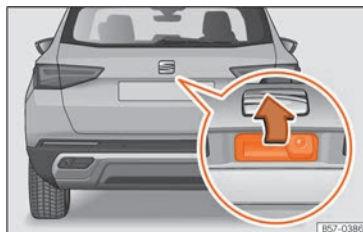

Fig. 59 Rear lid: opening from the outside.
- *Open*: place slight pressure on the handle. The rear lid opens automatically. >>> Fig. 59.